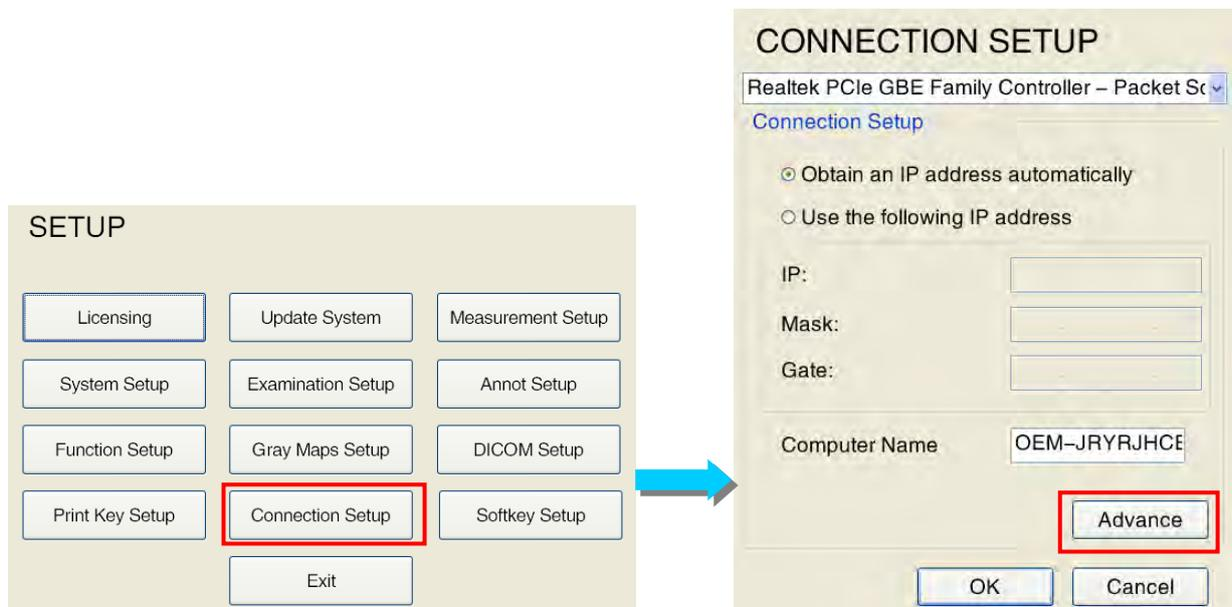

Fig. F-1
- 2) Tap **Setup** on the touchscreen. Then use the trackball and **Set** to click on **Connection Setup**. Then click on **Advance**, as shown in Fig. F-1.